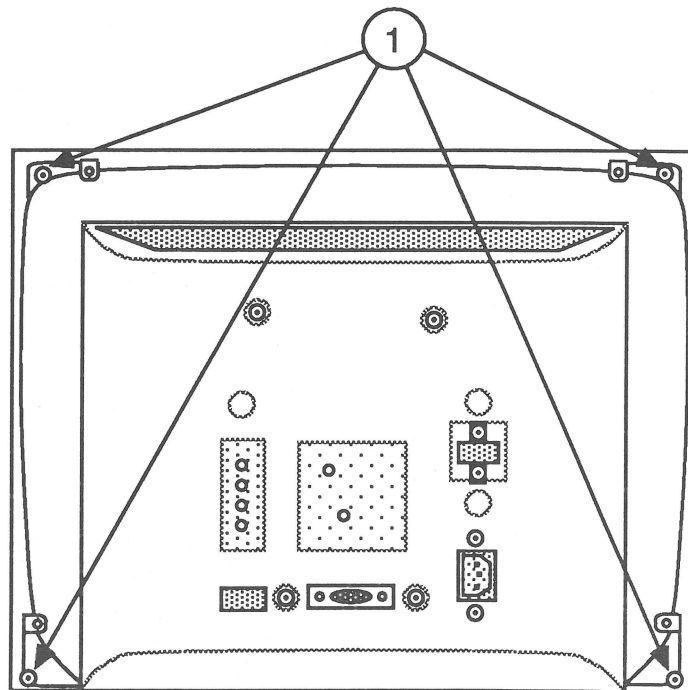

FIGURE 35
5. Remove the four corner hex nuts (Figure 35, #1) that secure the bezel to the chassis frame.
4. Replace the four corner hex nuts (Figure 35, #1) that secure the chassis frame to the front bezel.